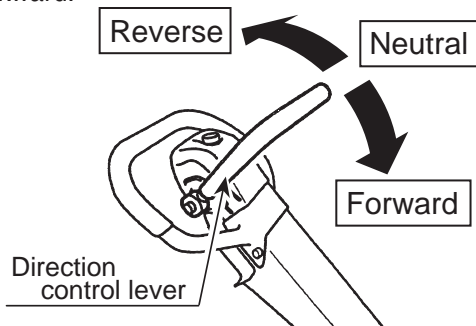

Figure 21. Direction Control Lever
3. Using the direction control lever, move the machine backward or forward (Figure 21). When the direction control lever is pushed forward, the machine moves forward. When pulled backward, the machine moves backward.